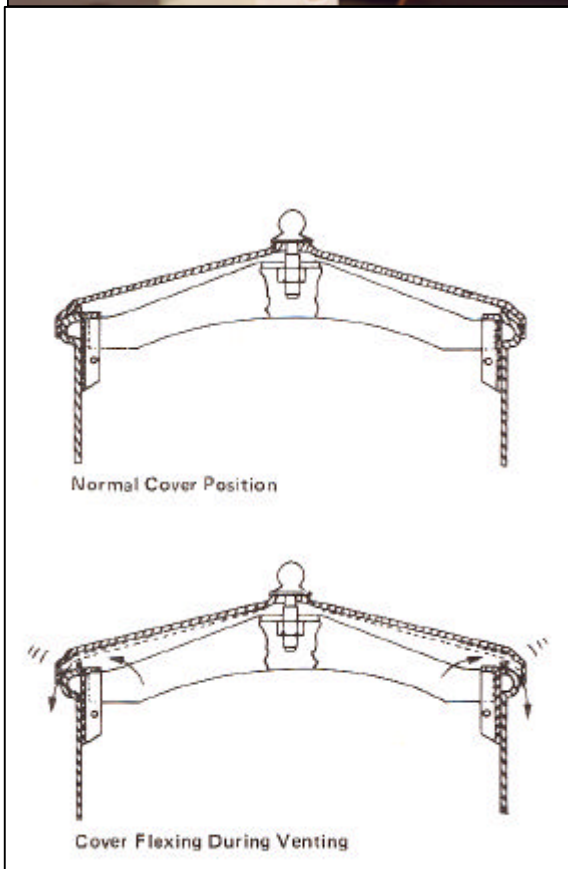

Fig. 12 Self-Venting Cover
8. Tank Pressure Relief (See Fig. 12)